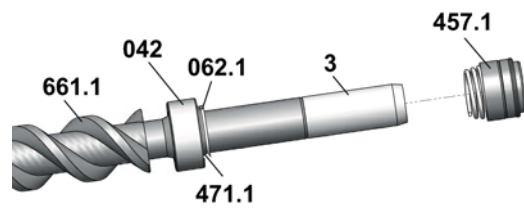

Fig. 25
3. Clean the main screw **661.1** around the mechanical seal carefully and grease it. Press the balancing cylinder **042** onto the main screw. Mount the circlip **471.1**, supporting ring **062.1** and rotary seal ring with spring **457.1**. Use the main screw mounting sleeve **3** to this purpose, see Fig. 25. Remove the mounting sleeve.